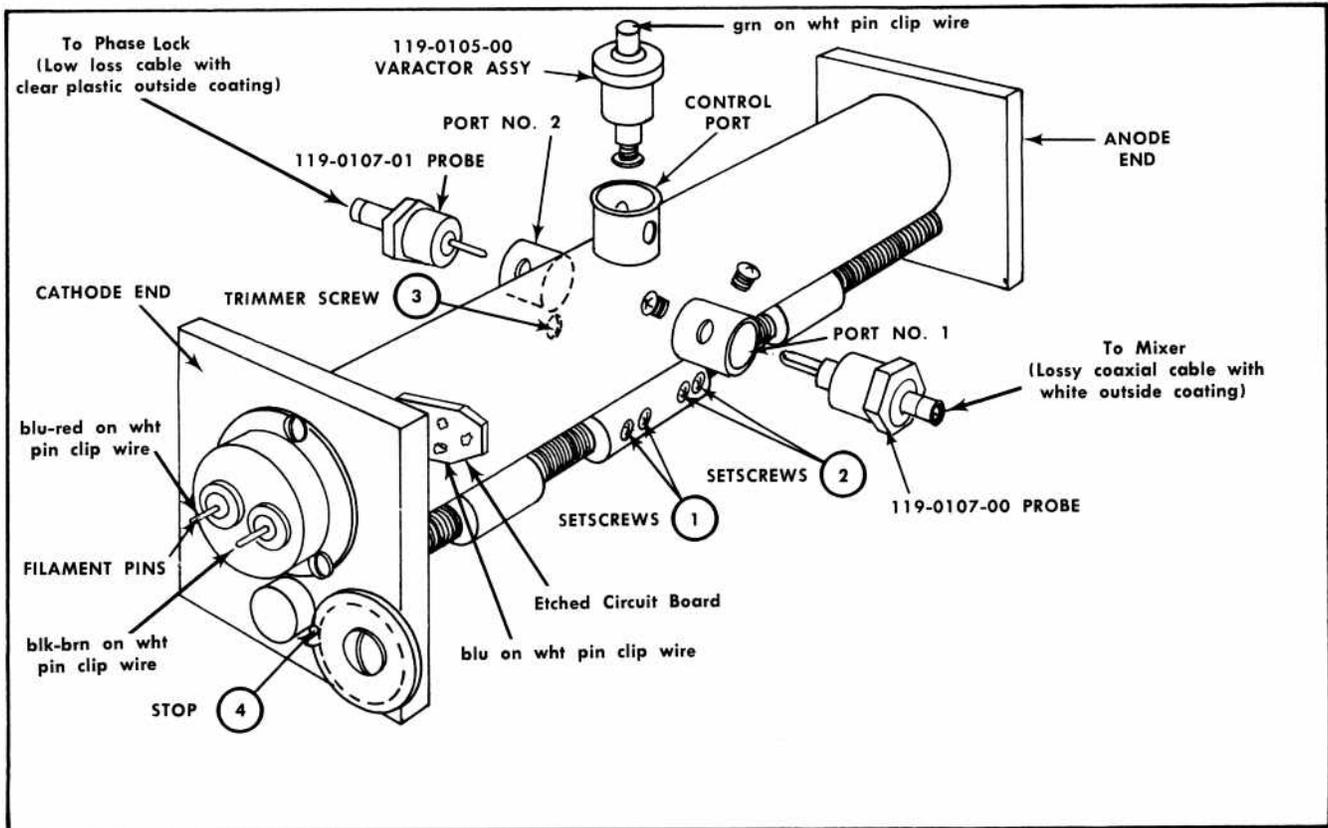

Fig. 4-3. Assembly alignment diagram.
1. Disconnect the four push-on clip wires and the two push-on coaxial cables, see Fig. 4-3.
Refer to Fig. 4-3 for the location of the sub-assemblies and ports. The oscillator assembly must be removed for calibration. The probe assemblies can be oriented within the magnetic field of the oscillator chamber by loosening set screws and positioning the probe in or out of the chamber or rotating the probe within the field.
This procedure should be used only after replacing the oscillator tube. Refer to Fig. 4-3 for the location of sub assemblies and ports. The oscillator assembly must be removed for calibration.
a. Install probe assembly (Part No. 119-0107-01) into the No. 2 port (Fig. 4-3). Position the probe assembly approximately $\frac{1}{16}$ inch out from full penetration with the notch or keyway (DC return of the probe) towards the plate end of the oscillator assembly, and secure by tightening one of the two set screws.
b. Install probe assembly (Part No. 119-0107-00) into the No. 1 port (Fig. 4-3). Position the probe assembly approximately $\frac{1}{16}$ inch out from full penetration with the notch or keyway towards the plate end of the oscillator assembly, and secure by tightening one of the two set screws.
i. Loosen the set screws (1) in Fig. 4-3, and position the plate choke for a frequency of 4.2 GHz.
j. Loosen the set screws (2) in Fig. 4-3, and position the cathode choke for maximum power output. Decrease probe coupling if power output exceeds 100 mW.
c. Install pinion gear so bent tooth of the spur gear makes contact with the set screw (4) Fig. 4-3, then tighten the set screw in the pinion gear.
b. Tune the dial to indicate 1.5 GHz. Adjust the trimmer screw (3) in Fig. 4-3, for an oscillator frequency of 1.7 GHz.